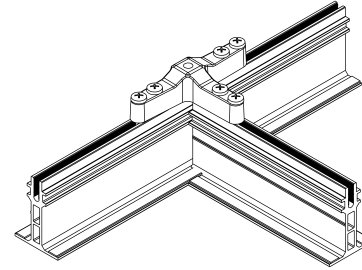

Fig 4
- 2.2** All cross tees and main beams are to be connected to the perimeter main beam with a T-Bracket (DMTB), using the provided 1/4"-20 screws (**Fig 4**). Screws must be fully seated but not over-torqued (maximum 100 in-lb) to avoid damage to the threaded channel. Perimeter main beams are joined together using a Main Beam Splice.